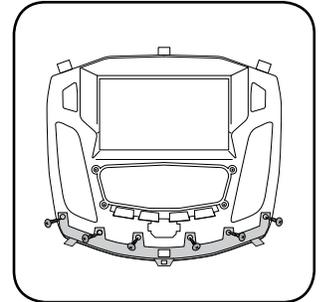

Fig. 2.4
4. Using the screws provided, attach to the FOC1, the bottom bezel trim that matches the factory bezel. (There are two trim pieces that come with the kit, make sure to attach the style that matches the shape of the underside of the OEM bezel.) (Fig. 2.4)